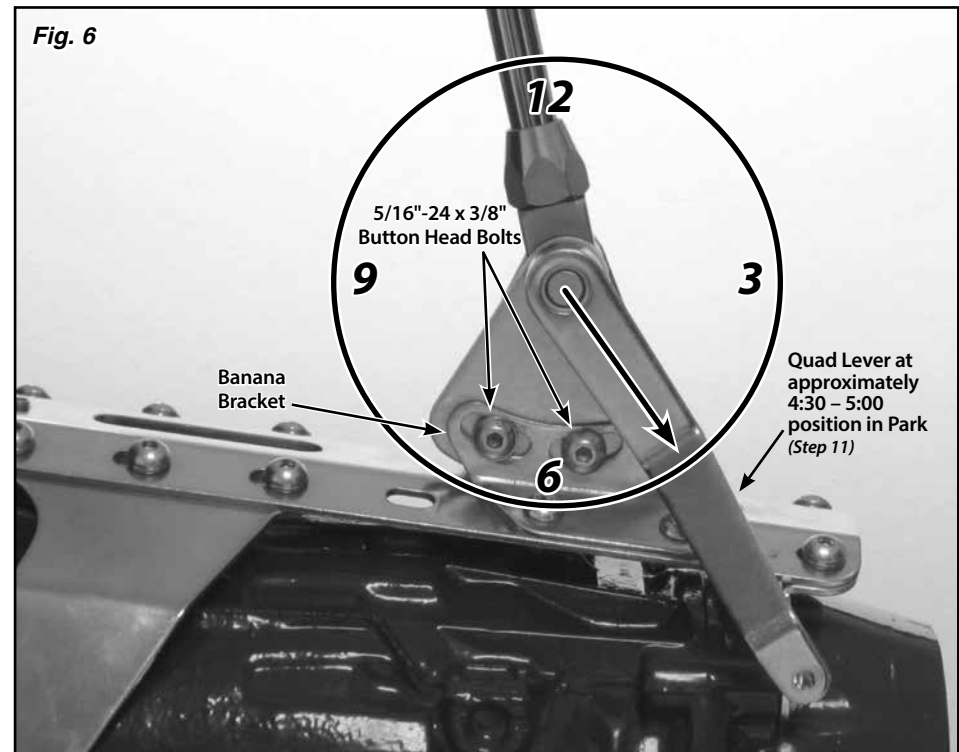

Fig. 6
Step 10: Make sure the two 5/16"-24 x 3/8" button head bolts that attach the driver side banana bracket to the shifter assembly (in the curved, slotted holes) are tight. Before tightening the shifter assembly down to the main plate, move the Shifter through all of the gear positions. Make sure that the shifter lever and knob do not come in contact with the dash or the seat. The shifter assembly can be tilted forward or backward if needed by loosening the 5/16"-24 x 3/8" button head bolts in the curved, slotted holes in the driver side banana bracket. **Fig. 6**
Step 11: Put the Shifter into the Park position and check the position of the quad lever. It will need to be pointing to about the 4:30 – 5:00 position. If it is not, loosen the set screw in the top of the quad lever with a 1/8" Allen wrench and slide the quad lever off of the shaft. Reposition it on the shaft at approximately the 4:30 – 5:00 position, and retighten the set screw. **Fig. 6**
Double check to make sure that the bolts connecting the **driver** side banana bracket to the shifter assembly are tight. **Fig. 6**